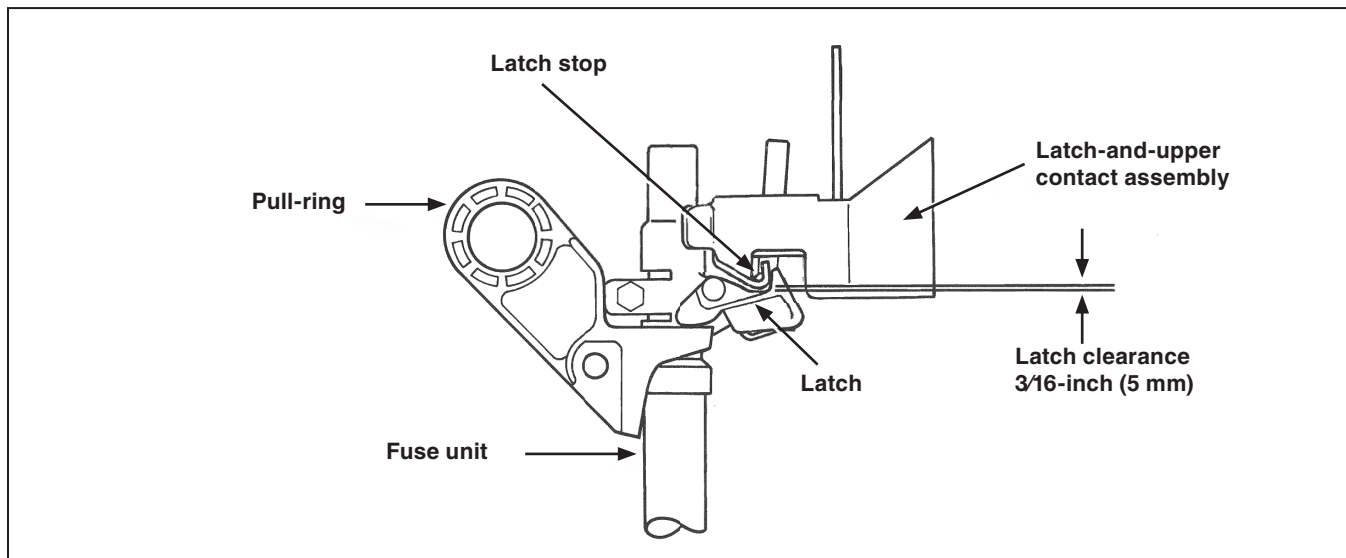

Figure 3. Proper latching configuration.
STEP 6. Using a conventional hookstick (or an S&C Universal Pole equipped with a Grappler® Handling Tool●), operate the fuse-unit assembly by moving it from the **Closed** position to the **Open** position and back again. Make sure the fuse-unit assembly enters the latch-and-upper-contact assembly on center, as described in Step 4, and that not more than a 3/16-inch (5 mm) clearance exists between the latch stop on the latch-and-upper contact assembly and the latch on the fuse-unit end-fitting, with the fuse unit in the **Closed** position. See Figure 3.